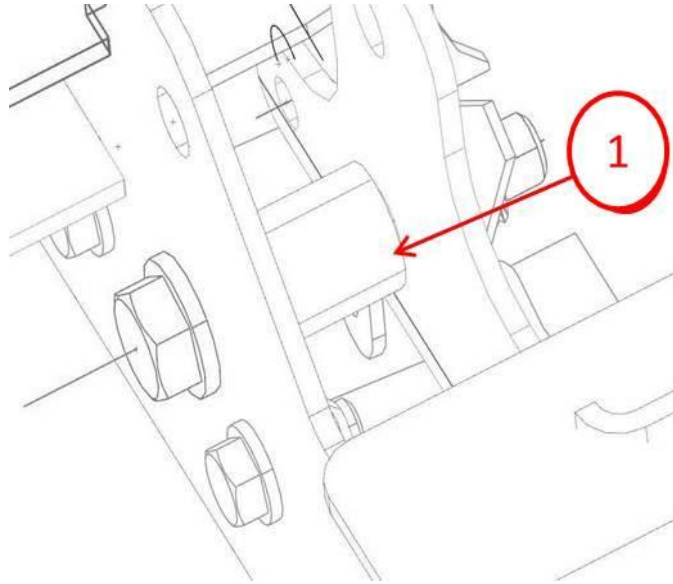

Fig. 1 Crush Sleeve
9. Install the provided new crush sleeve (1) in the kit and slide in between the production axle bracket and the new track bar bracket (**Fig. 1**).